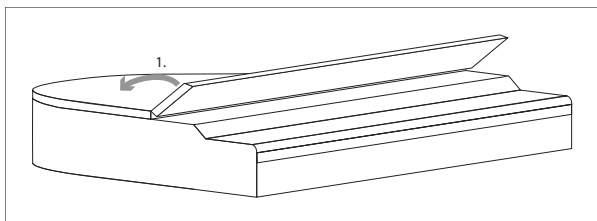

Fig. 3.1: Opening the front part of the lid
- 18) Lift the front part of the lid and fold it back, if not already the case (refer to Fig. 3.1).